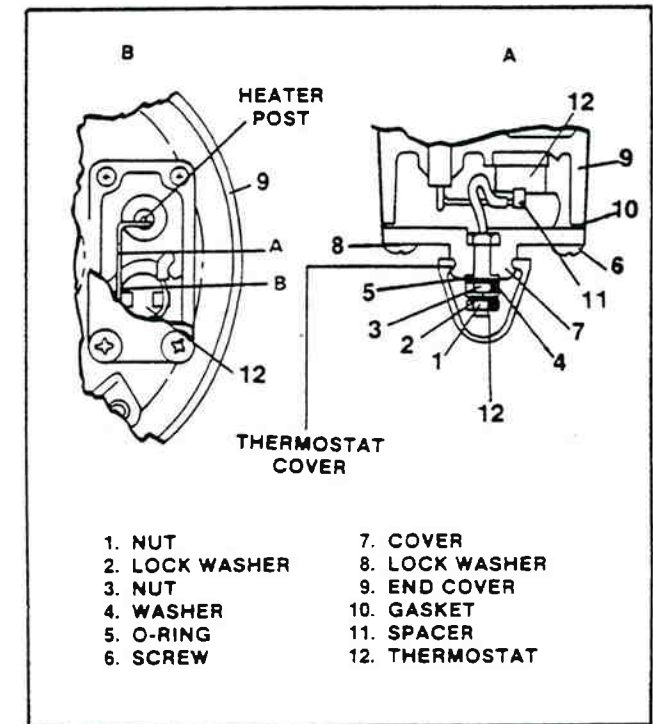
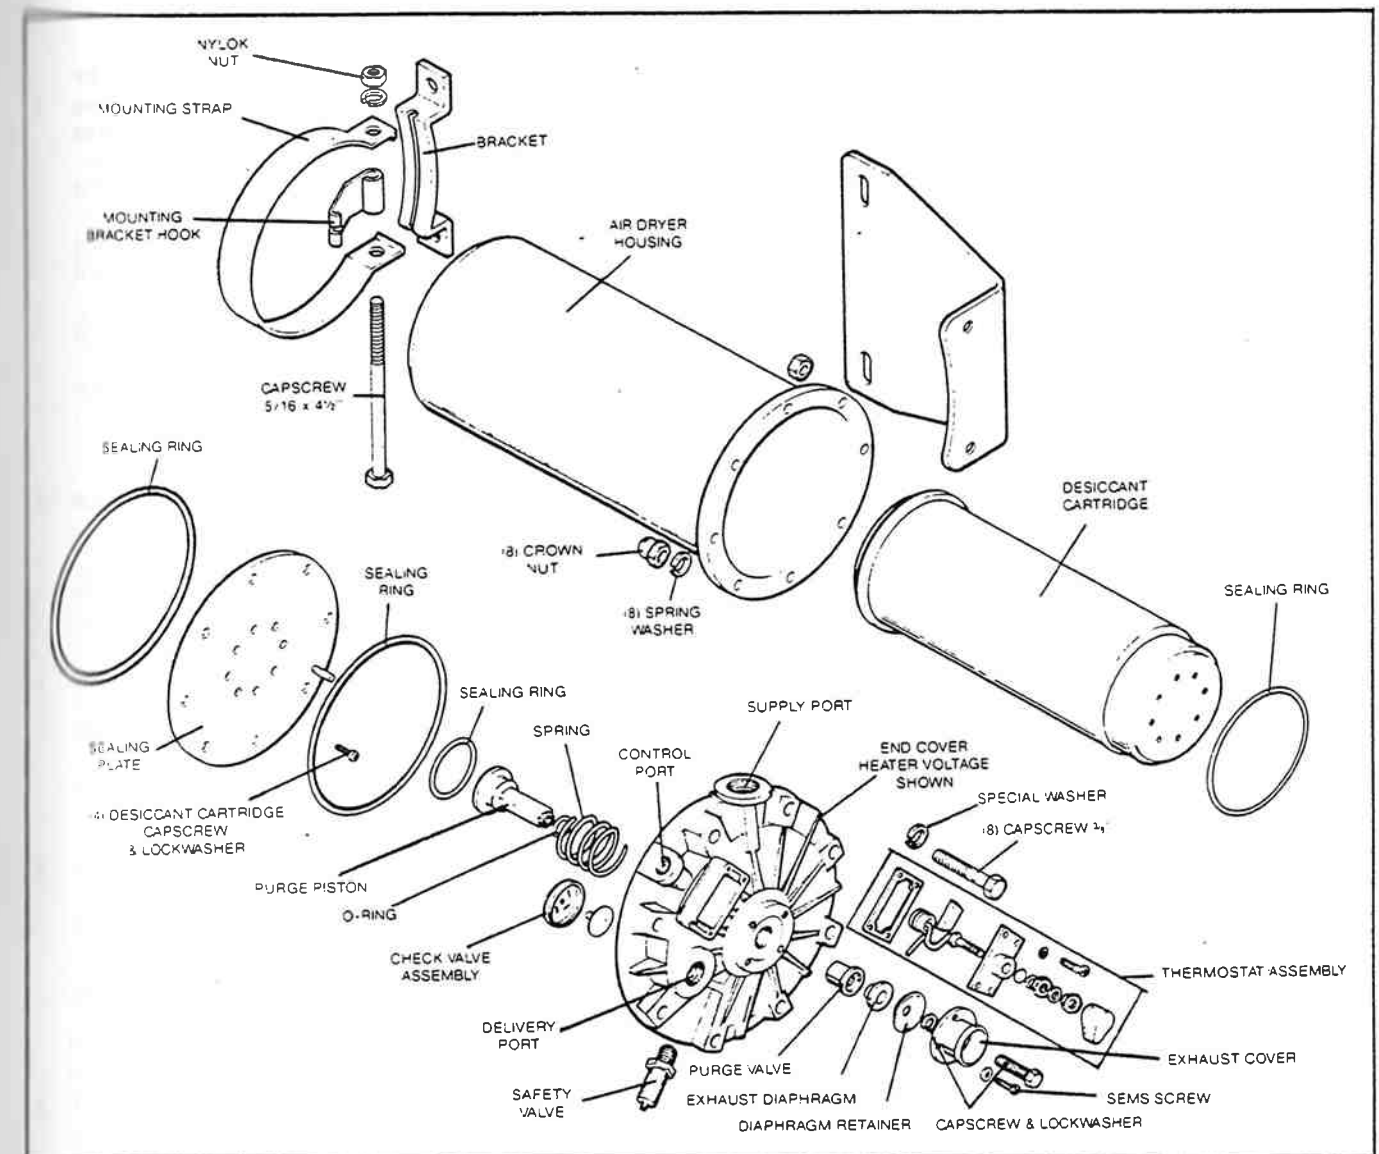

Figure 4-60. Thermostat Assembly.
Figure 4-62. AD-4 Parts Breakdown.
d. With the ignition OFF, remove the thermostat cover (see figure 4-60). Using an ohmmeter, check the resistance between the metal end cover and the heater post (figure 4-60). It should be 4.0-6.0 ohms. If the resistance reading is outside the stated limits, a new or remanufactured end cover should be installed, since the heater element cannot be serviced.
1. Refer to figure 4-62. Remove the eight  $\frac{3}{8}$ " crown nuts, spring washers, special washers and cap screws from the flange of the air dryer and separate the end cover from the air dryer shell.
1. Refer to figure 4-62. Place the purge valve spring into the cavity in the center of the top side of the end cover.
1. Refer to figure 4-60. Remove nut (1), then lock washer (2) nut (3), washer (4) and O-rings (5). Discard O-rings and retain other parts.
2. Remove and retain the four Phillips head screws (6) and cover (7).
3. Remove and discard gasket (10).
4. Remove and retain spacer (11).
5. Cut uninsulated thermostat wire at Point B (figure 4-62), remove and discard thermostat and terminal assembly (12).
7. Clean thermostat "pocket" in end cover (9).
8. Cut the uninsulated lead of the new thermostat at point A (figure 4-60).
10. Using a soldering heat sink, clamp the uninsulated leads at point B (figure 4-60) and solder the leads with straight rosin core solder. DO NOT USE ACID CORE SOLDER as corrosion can result. Clean excess solder off end cover.
11. Install thermostat terminal (12) in cover (6).
12. Install O-ring (5), washer (4) and nut (3). Tighten nut to 20-30 lb-in (2.3-3.4 Nm) torque. Then install lock washer (2) and nut (1) finger tight to allow for reconnection of electrical wire when reinstalled on coach.
13. Install spacer (11) over thermostat (12).
14. Install gasket (7) and thermostat cover (6) and secure thermostat cover to end cover (9) using screws (7) and lock washers (8).
a. At a temperature above 90°F (32°C), check the resistance between the thermostat terminal (2) and end cover (9). Resistance should be 1000 ohms or greater. If not, check for solder short.